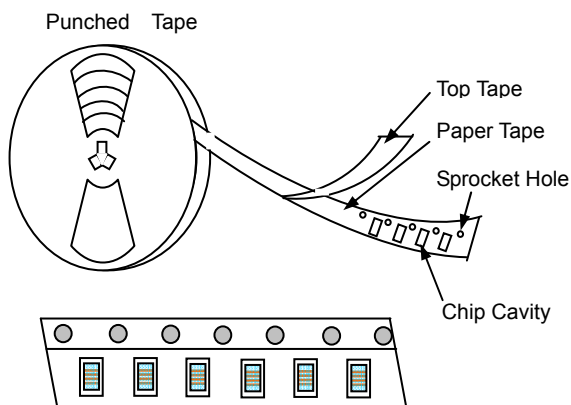

Fig. 7.1-1
- i. Tape carrier packaging are specified in attached figure **Fig.7.1-1~4**